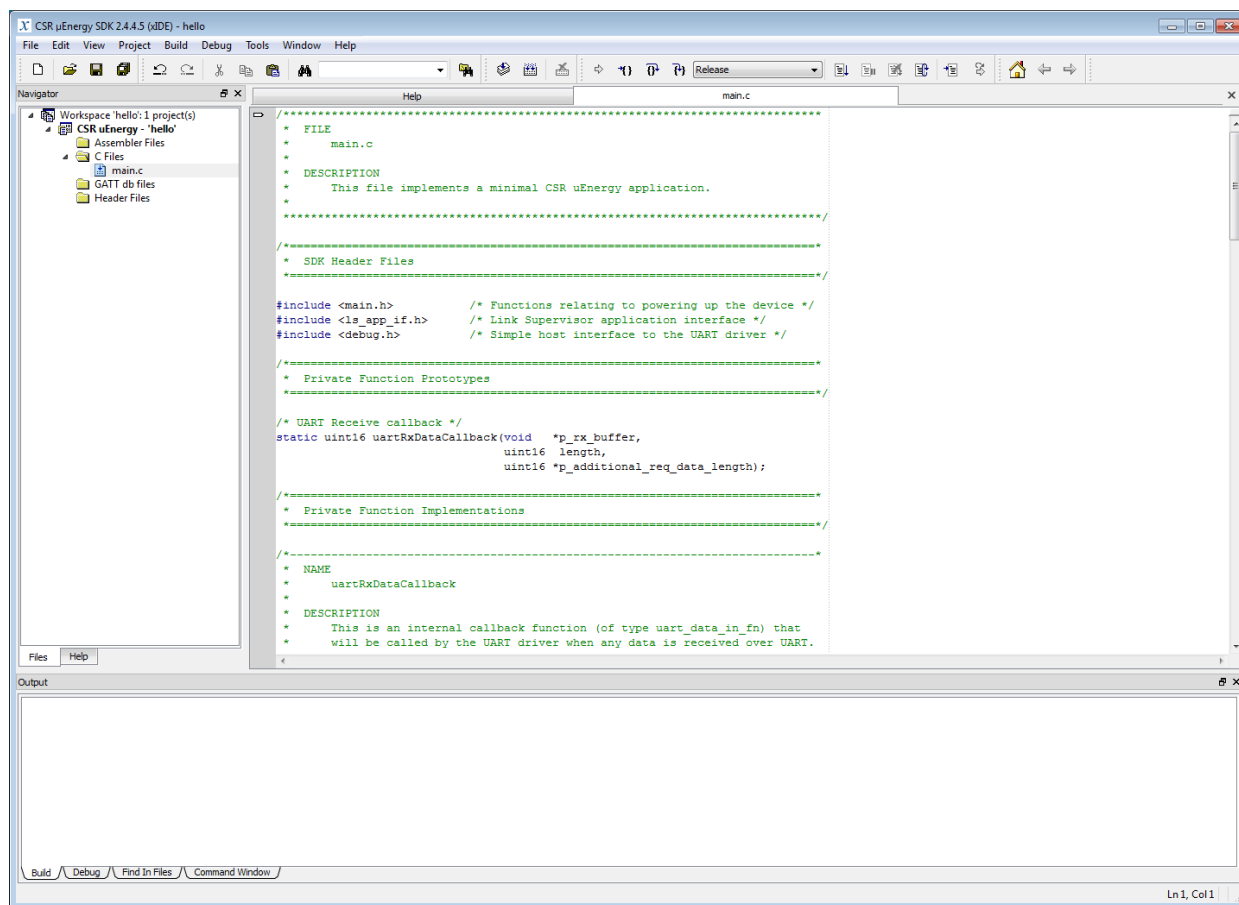

Figure 2.3: Text Editor
- Click on the **C Files** folder in the **Navigator** panel and select `main.c` to display the code in the **Text Editor** workspace, see Figure 2.3: